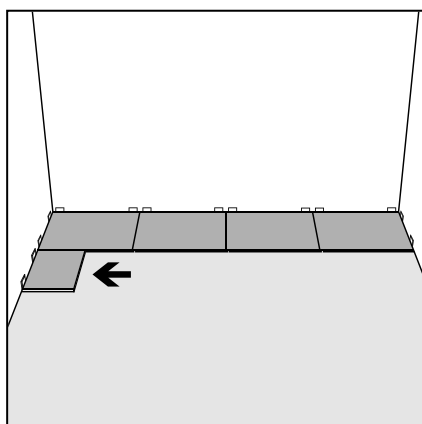

Figure 15 First plank, second row
- ▶ Insert a spacer between the end of the first row and the wall (expansion gap). Start this new row with the leftover piece from the last row (min length 350mm – Fig 15).